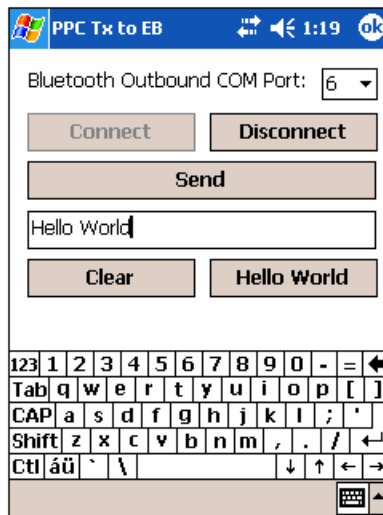

Figure 13: PPCTxToEB Pocket PC Application
12. Run the **PPCTxToEB** Application (Figure 13).